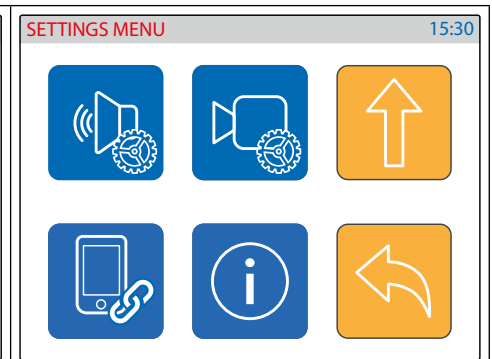

Fig. 6 Settings menu 2/2
- Tap on the speech adjustment icon (**Fig. 6 on page 18**).
- Tap on the video adjustment icon (**Fig. 6 on page 18**)